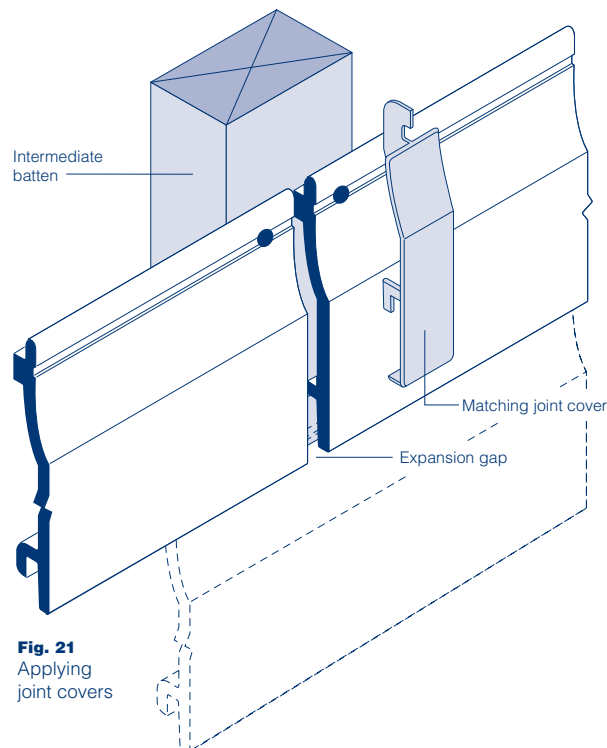

Fig. 21
- If using joint covers (as opposed to centre joint trims), install tight to the plank ends as work proceeds. All joint covers should be fixed over supporting battens. See figure 21.